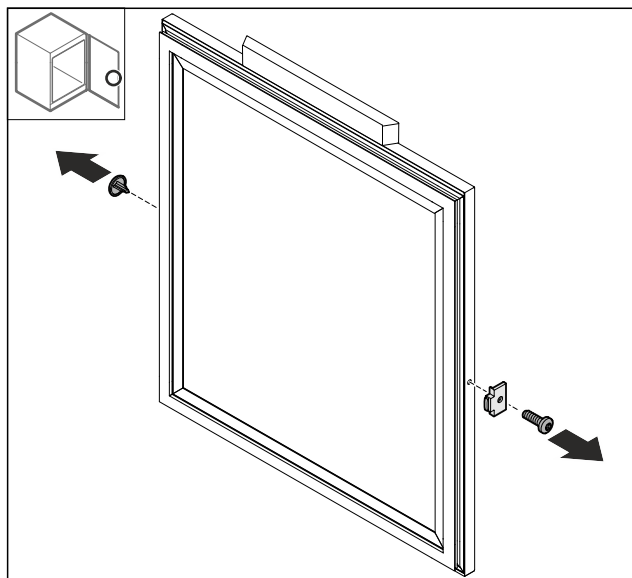

Fig. 73
- Remove cover Fig. 73 (1).
- Detach the Fig. 73 (2) door stopper.